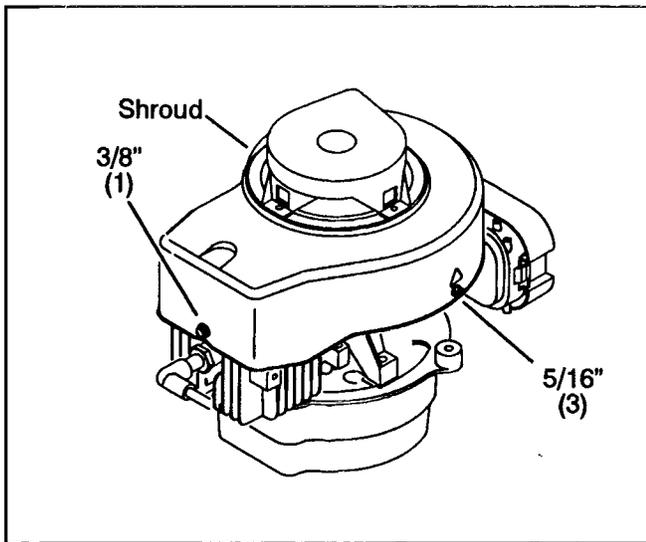

Figure 61
7. Reattach the shroud to the shroud base with four screws. Be sure the 3/8" screw (3/8" head, 1/4" Dia) is installed at the front of the shroud. Tighten all screws to a torque of 58 - 70 in lbs (6.6 - 7.9 N•m). **(Figure 61)**